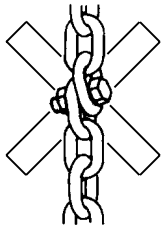

Fig. 5
- Do not knot or shorten the load chain by using bolts/screws/screwdrivers or other devices (Fig. 5). Do not repair load chains installed in the hoist.